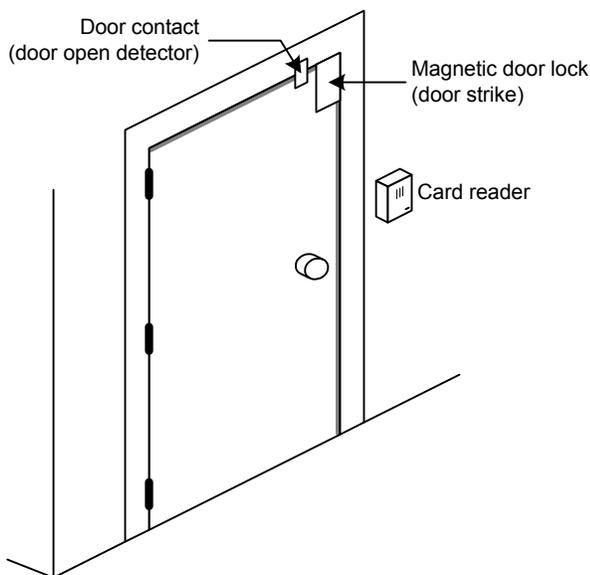

Figure 18: Door features in a typical access control system
In a typical access control system, a door has a card reader, a magnetic lock that is released when access is granted, and a door contact that monitors whether the door is open or closed (as in Figure 18).
- unauthorized entries are communicated to the ACS implicitly: the ACS knows an unauthorized entry has occurred when the turnstile sends a door contact signal, but no access granted has been sent (as if the person had forced open a magnetically-locked door similar to the one in Figure 18)